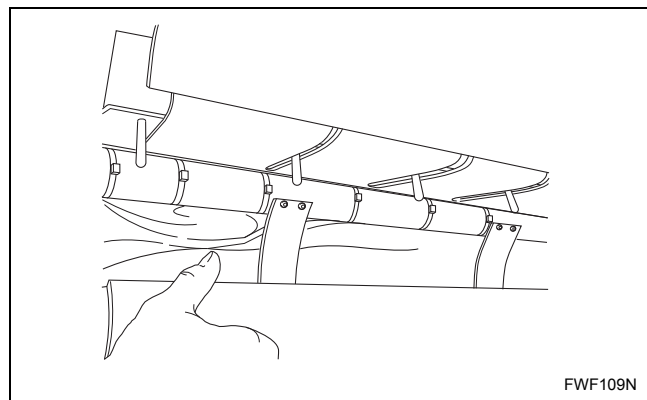

Figure 13
- a. Remove protective paper from below feeding table. Refer to *Figure 13*.